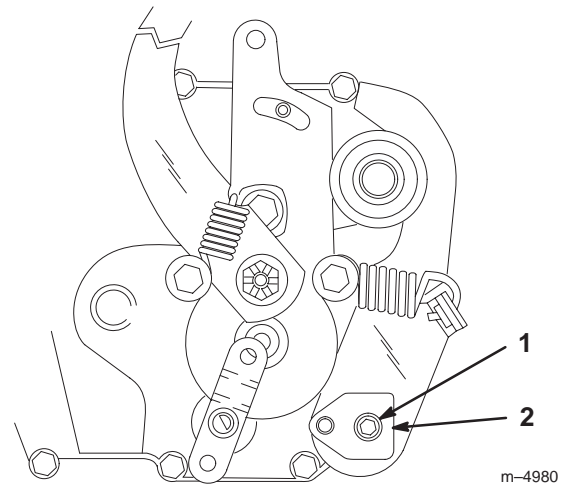

Figure 4
Note: To gain access to the adjusting puck (Fig. 4), it may be necessary to remove the tire.
5. Loosen the adjusting puck screw (Fig. 4).
7. Rotate the adjusting puck (Fig. 4) in both directions until you find the midpoint where the axle no longer rotates forward or reverse.